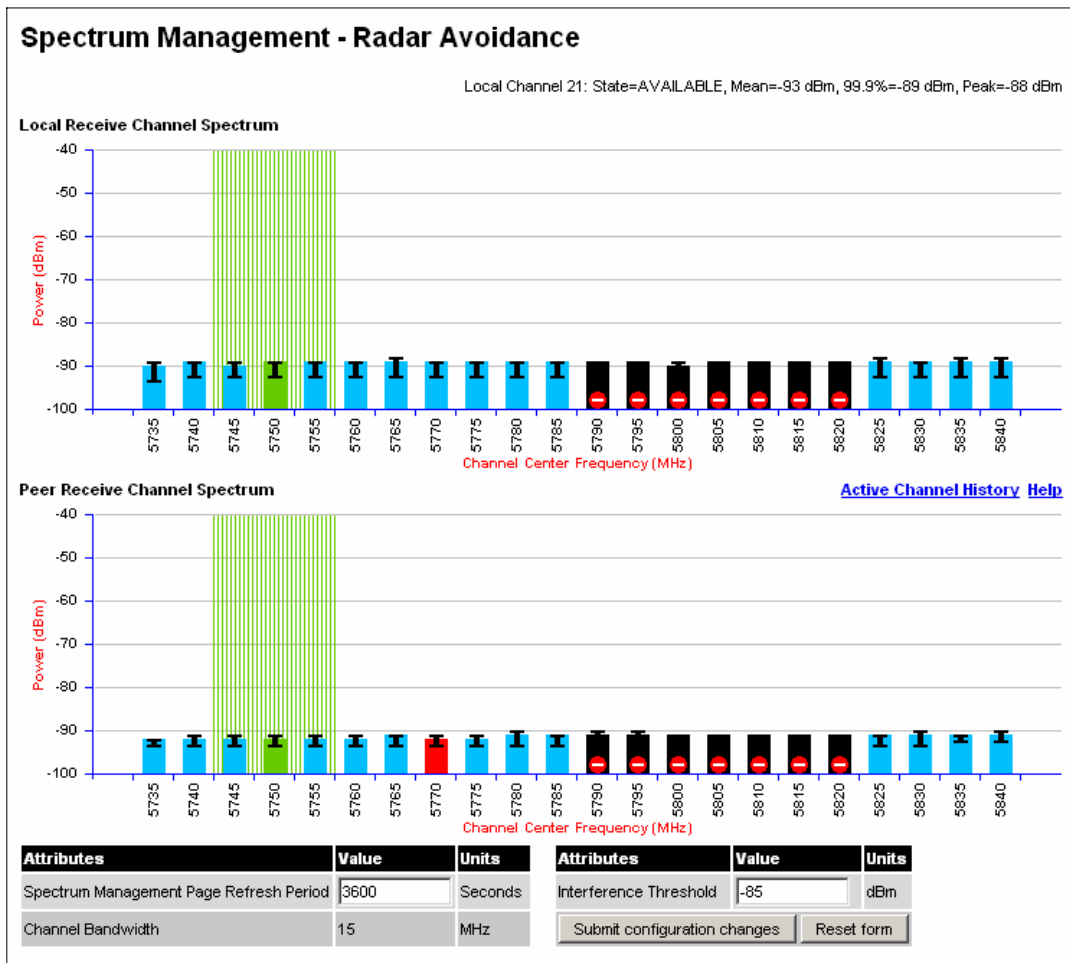
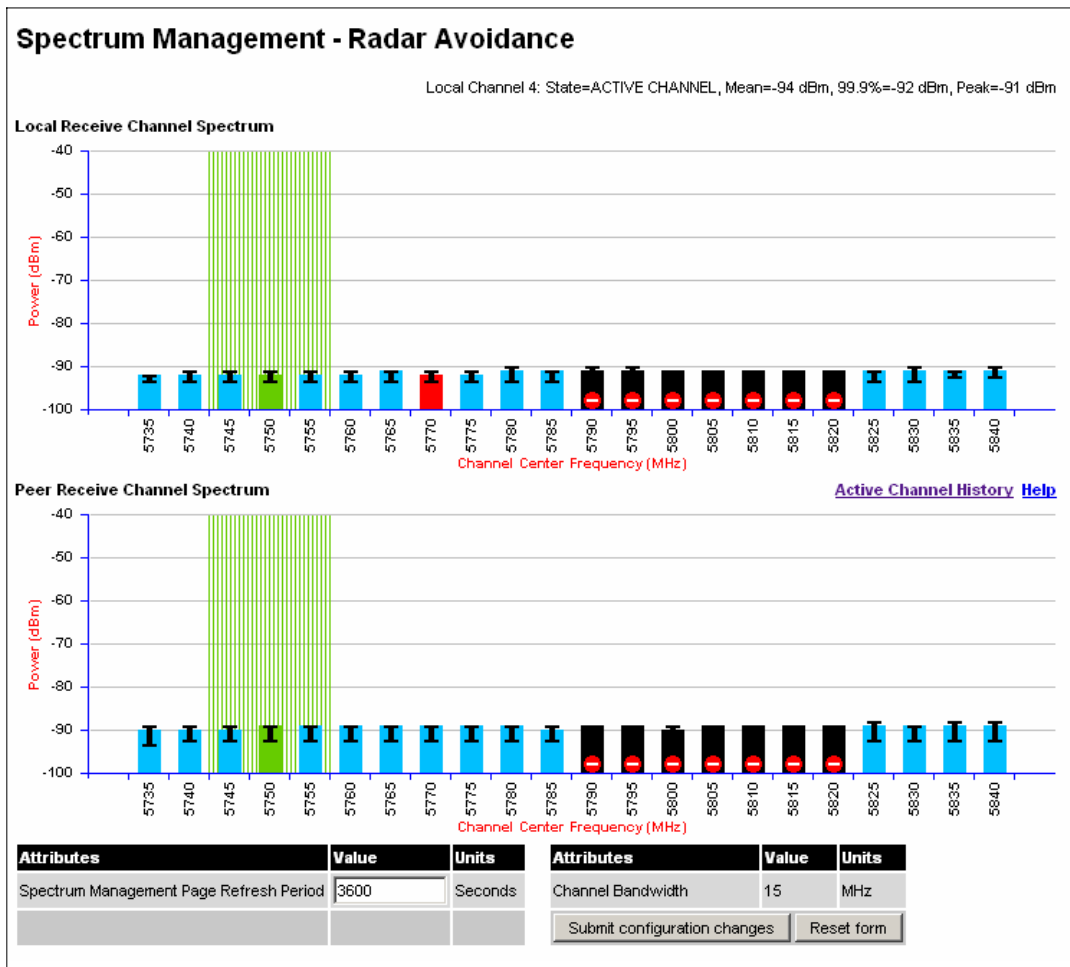

Figure 66 Spectrum Management Master Screen With Operational Restrictions
Figure 67 Spectrum Management Slave Screen With Operational Restrictions
- The words “Radar Avoidance” are appended to the “Spectrum Management” title at the top of the screen. See Figure 66 and Figure 67.
- The only controls available to the master are the Interference Threshold attribute. This has no effect on the operation of the wireless link and will only affect the generation of the channel spectrum graphics. See Figure 66.
- All channels marked with a ‘no entry’ symbol with their associated statistics colored black are the prohibited channels. See Figure 66 and Figure 67. These channels are never used to host the wireless link, but CAC measurements are still taken so that adjacent channel biases can be calculated correctly and so the user can see if other equipment is in use.